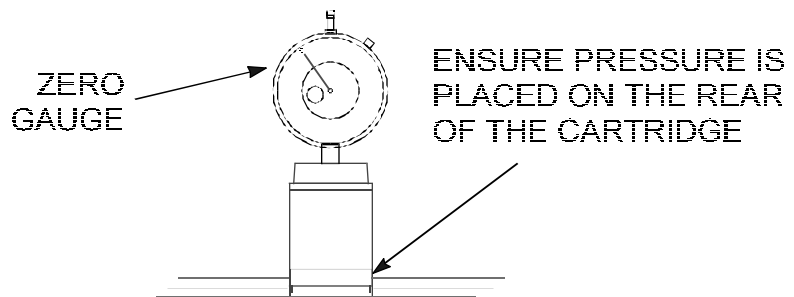

Figure 3-16. Zeroing the Micrometer Gauge.
3. Place the test cartridge upright on a flat surface and 'zero' the gauge by loosening the knob near the top and turning the dial until the needle is at the '0' position on the dial. Tighten the knob. See Figure 3-16.